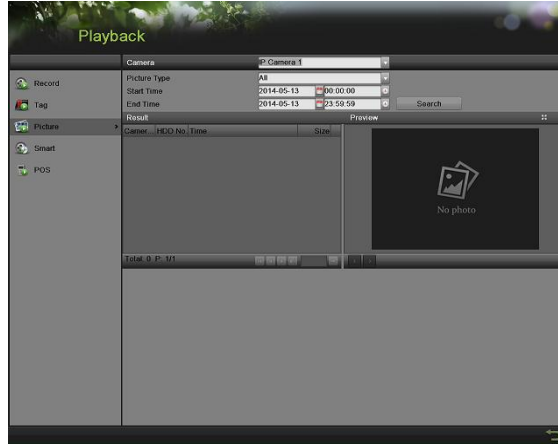

Figure 62 Picture Playback Interface
2. Enter the Picture interface, shown in Figure 62 by going to Menu > Playback > Picture.